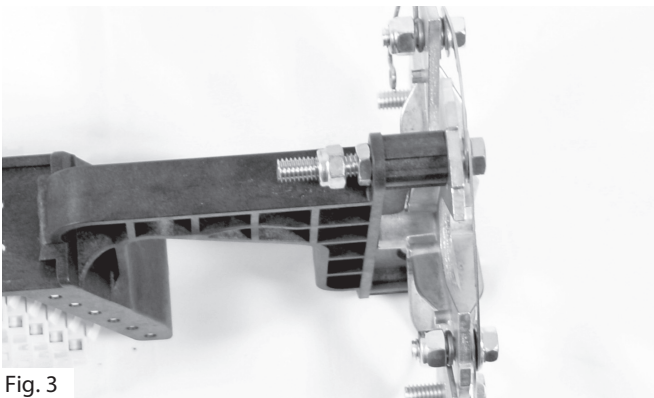

Fig. 3
3. Add a 5/16" jam nut and tighten. Add a second locking nut, but do not tighten it. (Fig. 3)